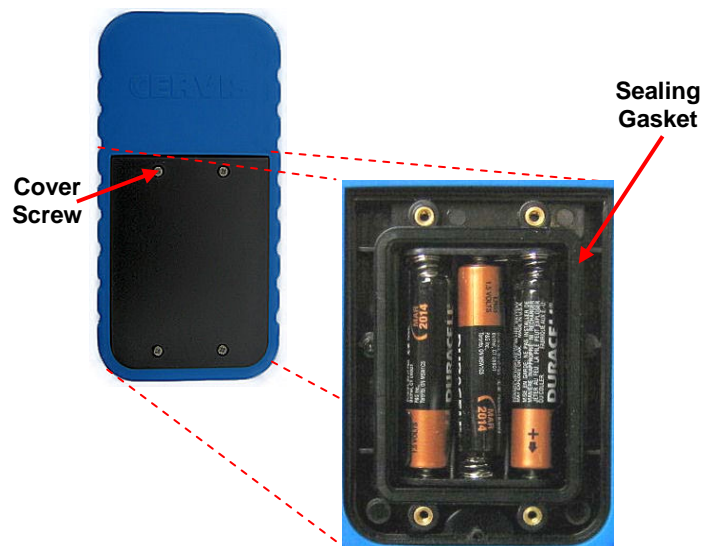

Figure 6. Handheld Battery Installation
2. If installing batteries in an empty battery compartment, install three fresh size AAA batteries. Be sure to position the batteries as shown in Figure 6 below.
If replacing expired batteries, remove the old batteries and install three fresh size AAA batteries. Be sure to position the batteries as shown in Figure 6 below.